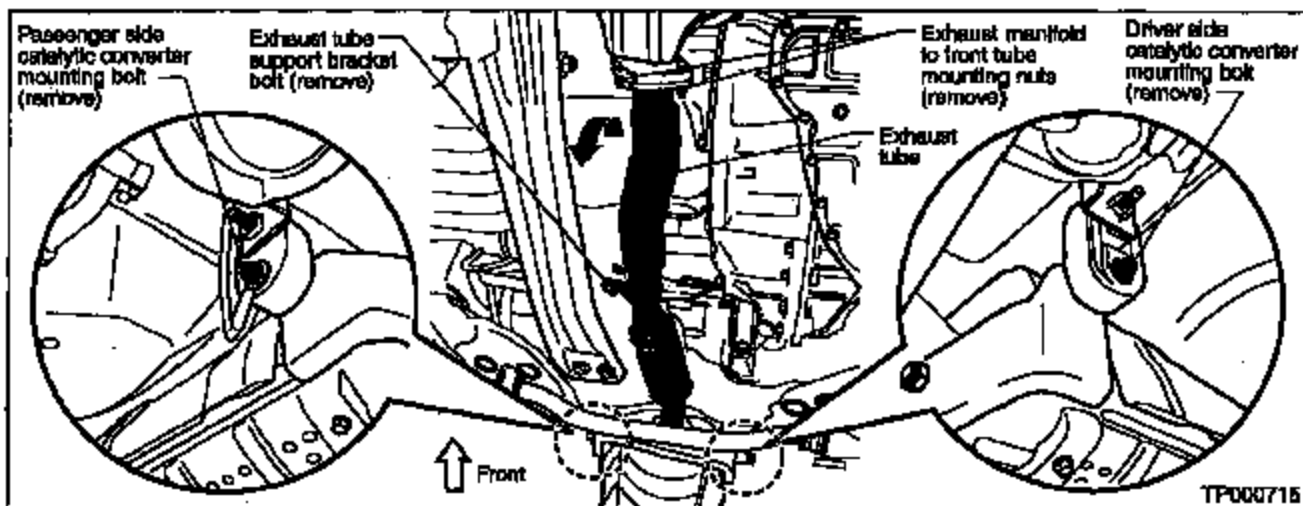

Figure 3
- A. Remove and save the two nuts that join the front exhaust tube to the exhaust manifold (see Figure 3).
- B. Remove and save the bolt that secures the exhaust tube support bracket to the vehicle (see Figure 3).
- C. Remove and save the two bolts that secure the front of the main catalytic converter to the vehicle (see Figure 3).
7. Re-install the two mounting bolts that secure the front of the main catalytic converter to the vehicle (see Figure 3). Tighten the bolts to 43.1 – 54.9 Nm (4.4 – 5.6 kg-m, 32 – 41 ft-lbs).
8. Re-install the bolt that secures the exhaust tube support bracket to the vehicle (see Figure 3). Tighten the bolt to 20.6 – 28.5 Nm (2.1 – 2.7 kg-m, 15.2 – 19.5 ft-lbs).
9. Install the two nuts that join the front exhaust tube to the exhaust manifold (see Figure 3). Tighten the nuts to 60 – 70 Nm (6.1 – 7.1 kg-m, 44 – 52 ft-lbs).